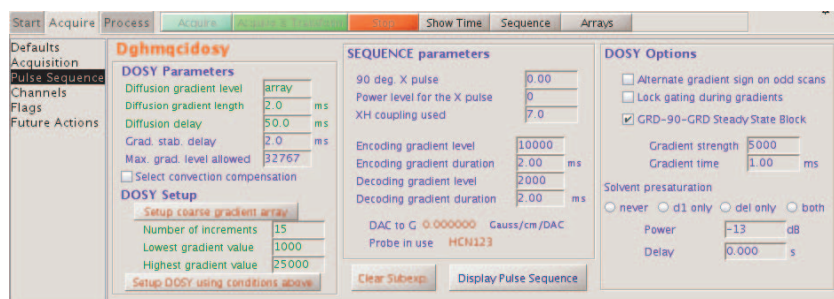

Figure 57. Pulse Sequence Panel for the 3D-hmqcidocy pulse sequence
6. Click on the **Setup DOSY using conditions above** button in the Pulse Sequence panel; see Figure 57.
The VNMRJ Pulse Sequence panel of the phase-sensitive 3D-hmqcidocy pulse sequence is shown in Figure 57.